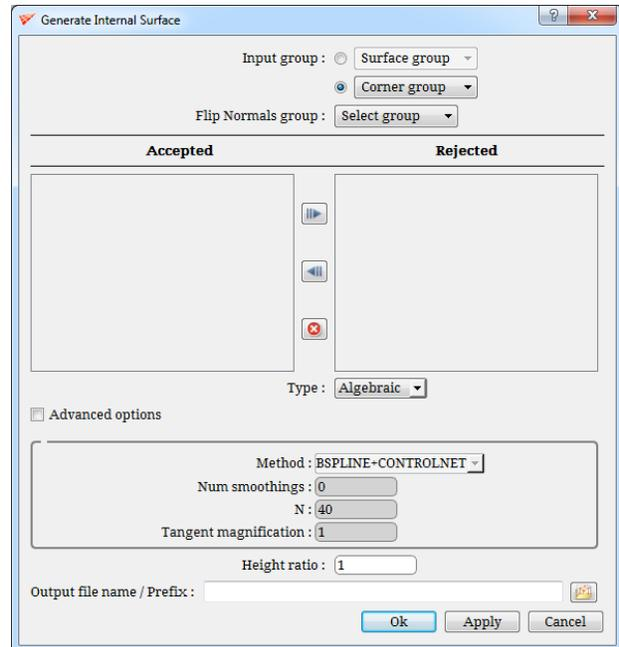

Figure 4.164: Internal surface dialog box
*Internal surface* is another tool which creates a quad surface at the intersection of surfaces. Figure 4.164 shows the dialog box of the Internal surface. You can choose to create it based on the surface or corner groups. By default corner group option is selected.